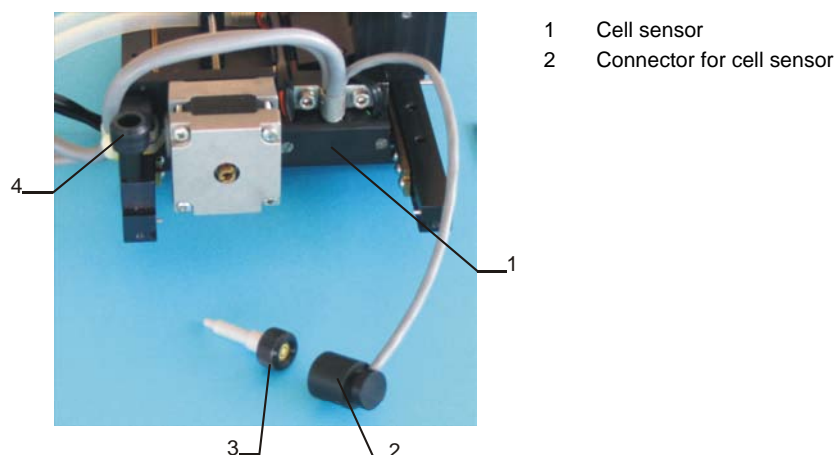

Fig. 13-14 Cell measuring sensor for the Peltier temperature-controlled 8-cell changer
1. Close a standard cell with round stopper with the supplied cell measuring sensor (Fig. 13-14 / 1) in place of the standard stopper.
2. Put the cell onto any desired cell position. Take the connector (Fig. 13-14 / 2) from the storage receptacle (Fig. 13-13 / 3) and plug the connector onto the cell measuring sensor.